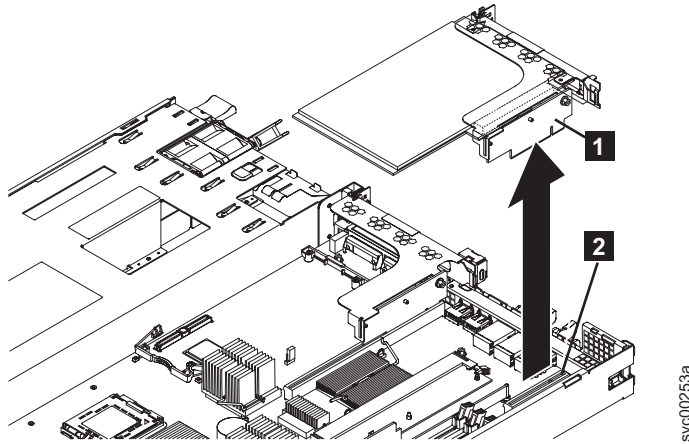

Figure 173. Removing the fibre-channel riser-card assembly for the SAN Volume Controller 2145-CF8
10. After removing the back-rail retaining screws for the adapter assembly, grasp the riser-card assembly at either end and pull up out of the slot 1 riser-card connector, as shown in Figure 173 on page 192. Once the riser card clears the connector, gently twist the card assembly to separate the assembly from the node.